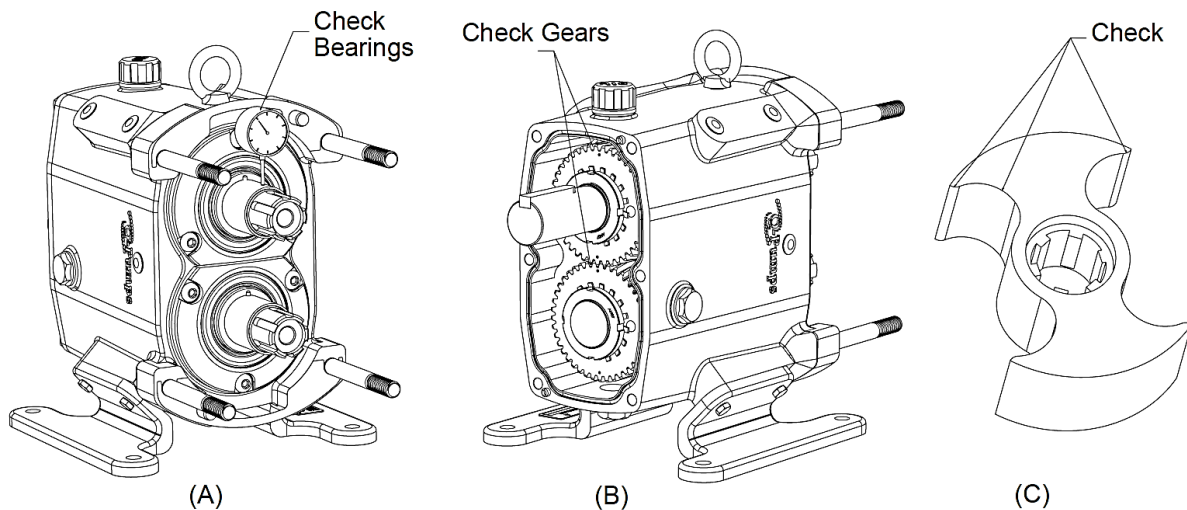

Figure 24: Annual Maintenance Checks
- Check the gear case bearings by measuring the shaft's radial movement with a dial indicator (Figure 24, A). If the movement is greater than or equal to the rotor-to-body clearances found on page 33 (Table 4) the bearings should be replaced.
- Remove the gear casing cover (See page 24 for disassembly information) and inspect the gears for wear and damage (Figure 24, B). Also check for backlash and looseness.
- Inspect the rotors for signs of wear and stress cracks around the areas defined in Figure 24, C. Replace, if necessary.